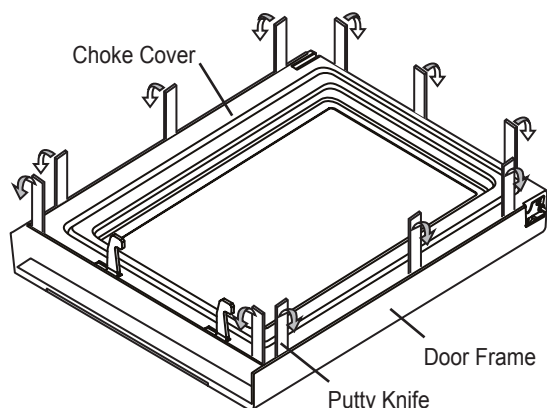

Figure C-7. Door Disassembly
3. Insert an putty knife (thickness of about 0.5mm) into the gap between the choke cover and door frame as shown in Figure C-7 to free engaging parts.
4. Pry the choke cover by inserting a putty knife as shown in Figure C-7.